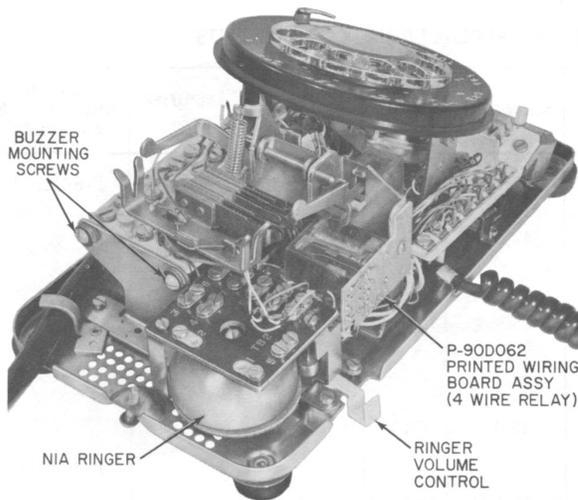

Fig. 6—568HR (MD) Telephone Set, Interior
**2.09** The 568HR (MD) telephone set is equipped with an N1A ringer (Fig. 6) which may be used as a line ringer or a common audible signal. Ringer volume is controlled by means of a ringer arm projecting through the lower left side of the housing.